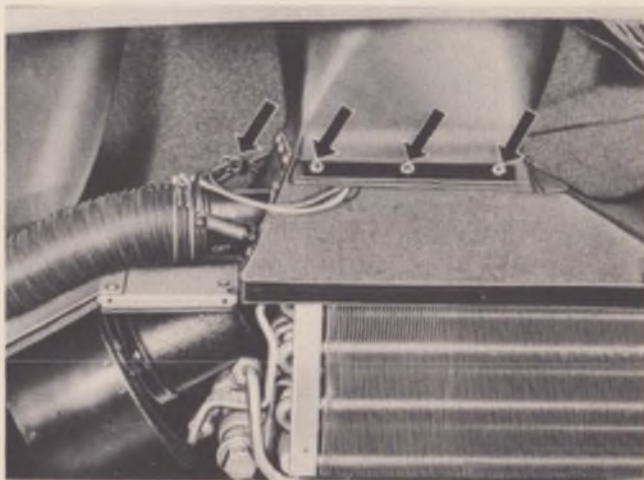

Fig. 26
1. Disconnect the wires at the connector above the evaporator and remove the three duct retaining plate screws. See arrows in figure 26.